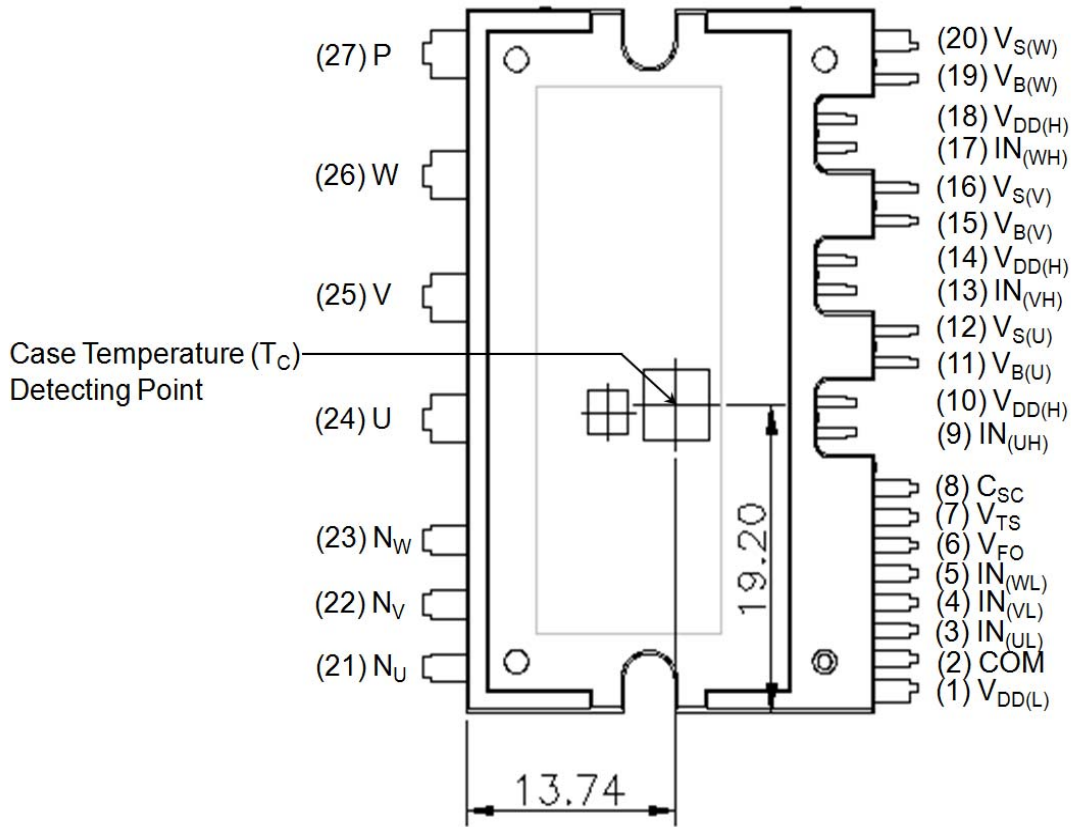

Figure 2. Top View
| T_C | Module Case Operation Temperature | See Figure 2 | -40 ~ 125 | $^\circ\text{C}$ |
- For the measurement point of case temperature (T_C), please refer to Figure 2.